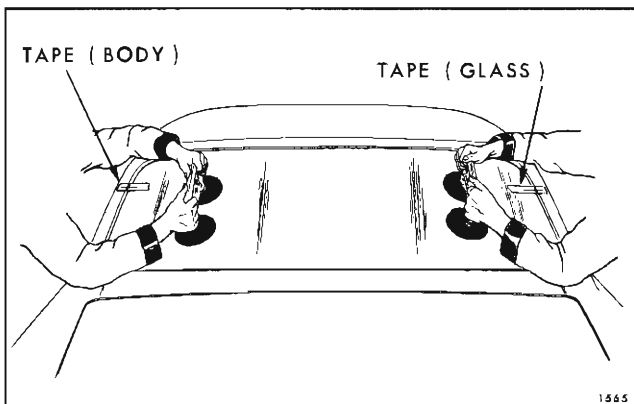

Fig. 2F6—Back Window Installation
**NOTE:** When material in first tube is dispensed, quickly insert second tube and continue application of bead. This material begins to cure after fifteen (15) minutes exposure to air, therefore, perform the following steps immediately and install glass in the opening as quickly as possible.
18. With the aid of a helper, carefully install glass in body opening. Make certain that glass sets properly on spacers and does not have to be shifted after material contacts pinchweld flange. Align tape on glass with tape on body to guide window into opening. (See Fig. 2F6).